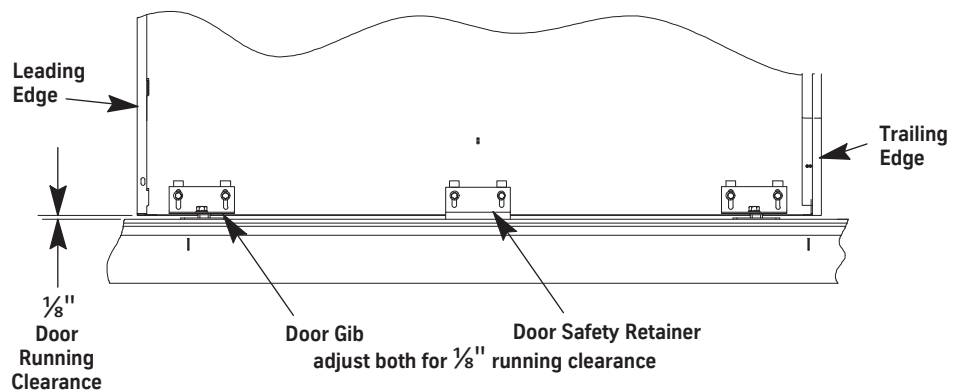

Figure 16 - Standard Sill Running Clearance
1. Adjust the door gib brackets and the door retainer brackets for a 1/8" running clearance between the brackets and the hoistway sill. Tighten the bolts after adjustment. See Figure 16.